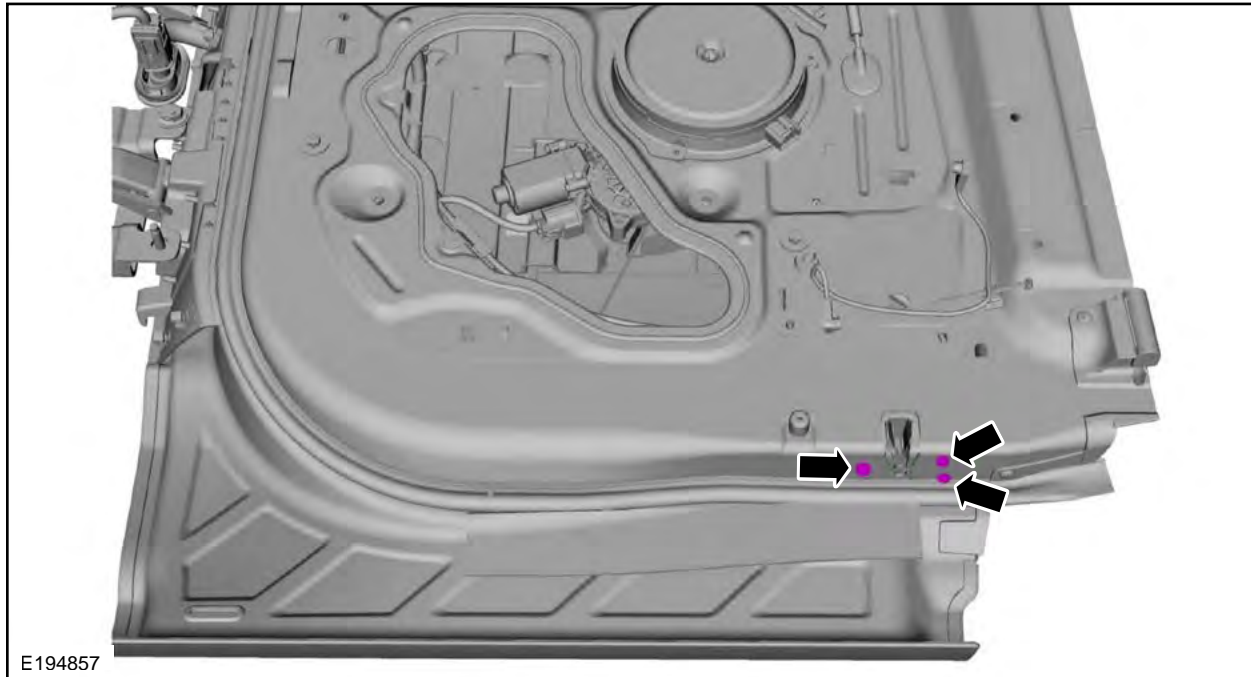

FIGURE 100
4. Remove the three lower door latch bolts. See Figure 100.
10. Install the three lower door latch bolts. See Figure 100.